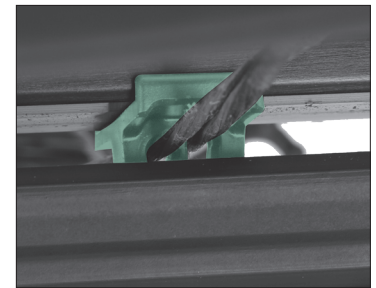

FIGURE 4
- 1b** Slide the cable slide into the opening at the end of the barrel while sliding the string down the top of the rail. (Fig. 4)